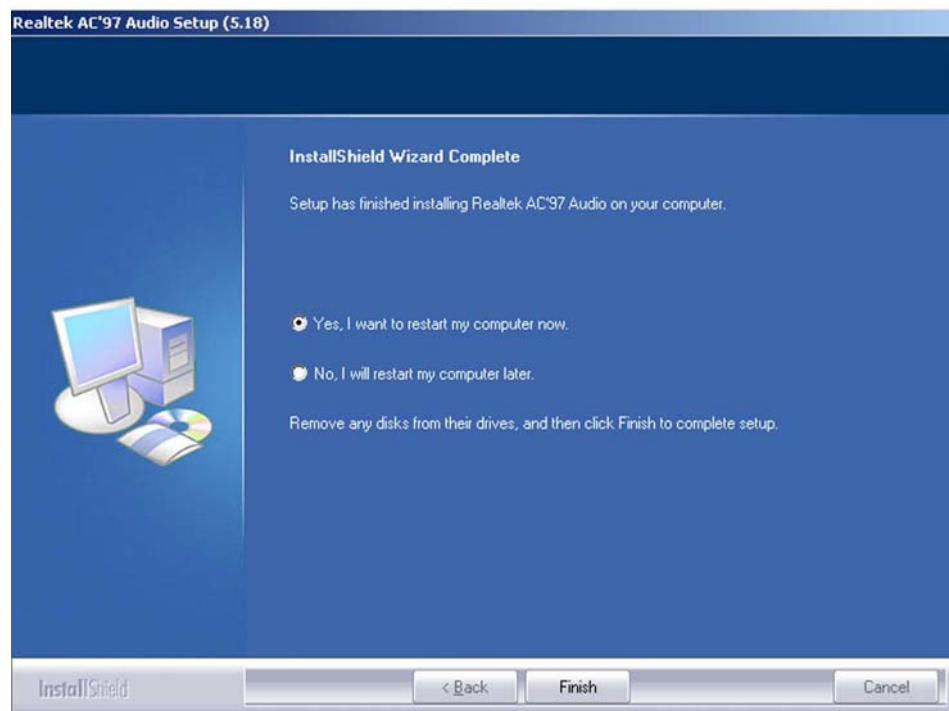

Figure 6-15: Audio Driver Installation Complete
Step 7: After the driver installation process is complete, a confirmation screen shown in **Figure 6-15** appears
Step 8: The confirmation screen shown in **Figure 6-15** allows you to restart the computer immediately after the installation is complete or to restart the computer later. For the settings to take effect the computer must be restarted. Once you have decided when to restart the computer, click the **“FINISH”** button.